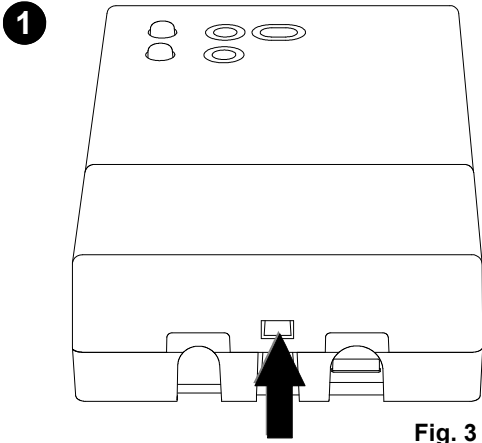

Fig. 3
The reset button can be pressed without opening the interface's panel, simply inserting the tip of a screwdriver into the slot of the button, indicated as G in Fig. 3.
- ① Using a screwdriver, push the plastic flap of the bottom slot and slightly lift the cable lid up (Fig. 3).